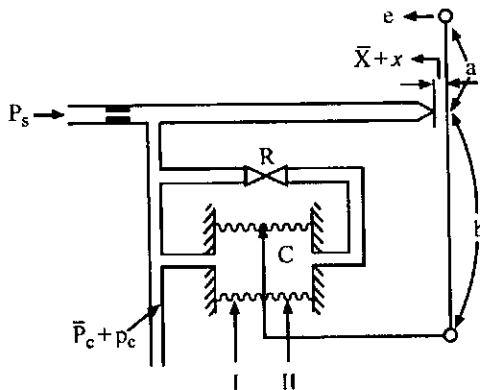

Fig. 6
5. (a) Fig. 6 shows a schematic diagram of a pneumatic controller, where bellow I is connected to the control pressure, p_c without any restriction and bellow II connected through a restriction. Assuming small deviation in error, e as input variable and change in control pressure p_c as output, show that the controller gives an integral control action. 10